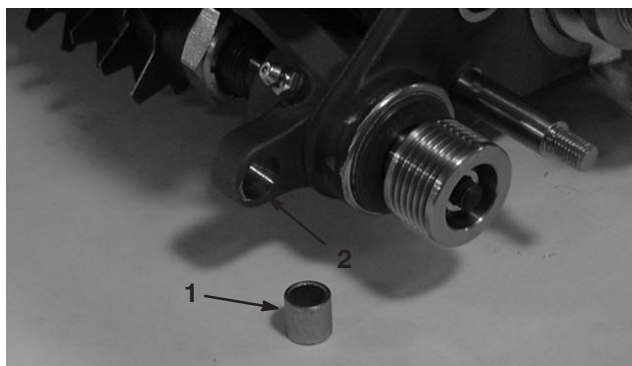

Figure 13
24. Insert a bushing into the hole in the L.H. groomer drive assembly (Fig. 13).